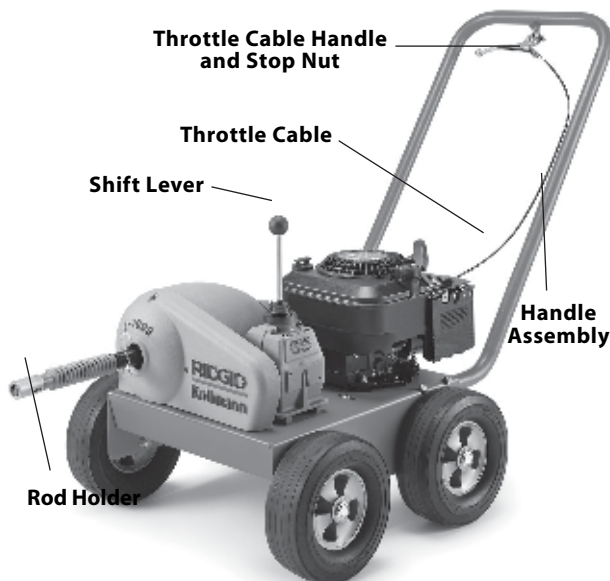

Figure 1
1. Insert handle assembly into handle openings in base and attach by means of four 3/8" bolts provided (Figure 1).
WARNING At idle speed, the drive shaft should not be turning. If drive shaft does turn, make sure that throttle control spring is connected or adjust idle speed at the throttle cable handle by loosening stop nut and adjusting cable length (Figure 1).
8. Couple rod to machine to rod holder (Figure 1).